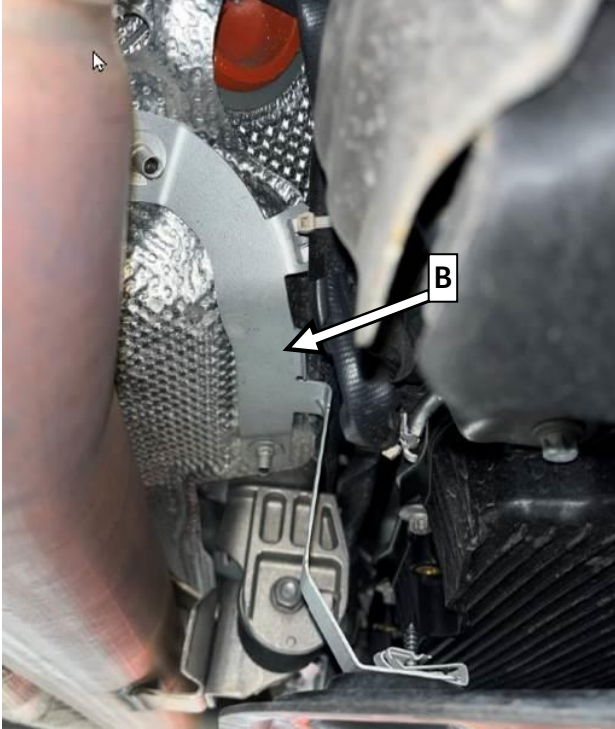

Figure 2
1. Remove holder (**Figure 2, B**) for attaching wiring harness and engine compartment lining.